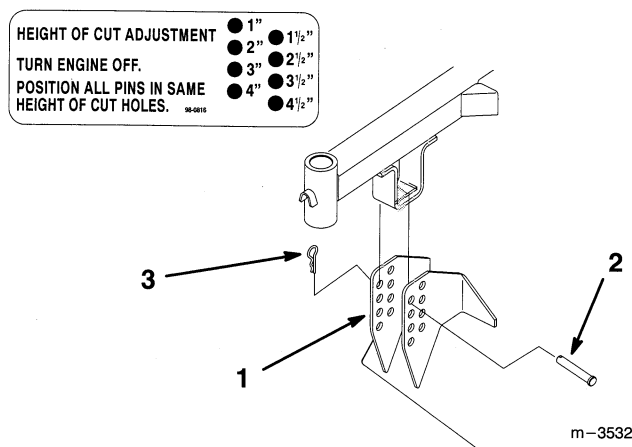

Figure 8
9. Select hole in mower hanger bracket corresponding to the height-of-cut desired. Lift on side and front handles to align holes and insert clevis pin (Fig. 8).
10. Secure clevis pin with hairpin cotter (Fig. 8).